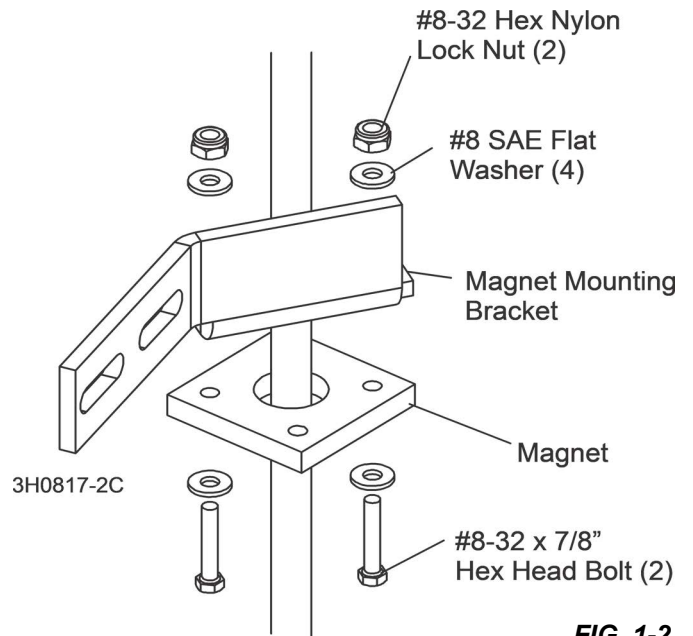

FIG. 1-2
4. Position the supplied template on the sawmill vertical mast tube $4\frac{5}{16}$ " from the top of the tube. **See FIG. 1-2**
2. Slide the magnet assembly onto the sensor (the assembly will be secured later). **See Figure 1-2**